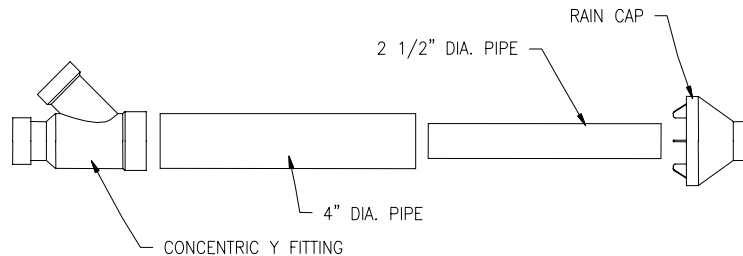
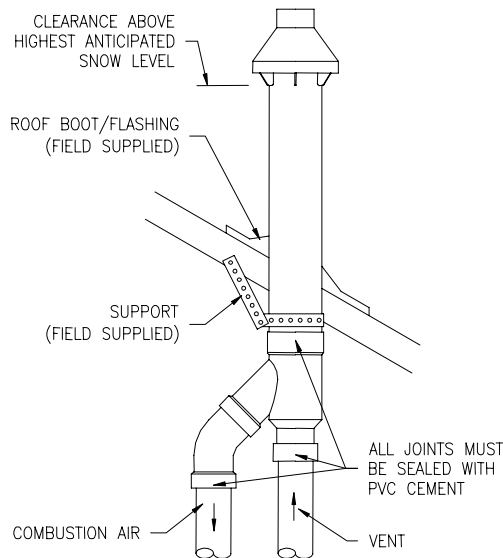

Figure 20. Concentric Vent Kit Part Identification
Figure 22. Concentric Vent Roof Top Attachment
- a. Cement concentric Y fitting to larger diameter pipe. (See Figure 20).
6. Secure assembly to roof structure as shown in Figure 22 using field-supplied metal strapping or equivalent support material.
Ensure termination height is above the roof surface or anticipated snow level. Figure 22.
8. Cement heater combustion-air and vent pipes to concentric y fitting assembly (Figure 20). See Figure 22 for proper pipe attachment.
- Cement Y concentric fitting to larger diameter kit pipe. (See Figure 20).